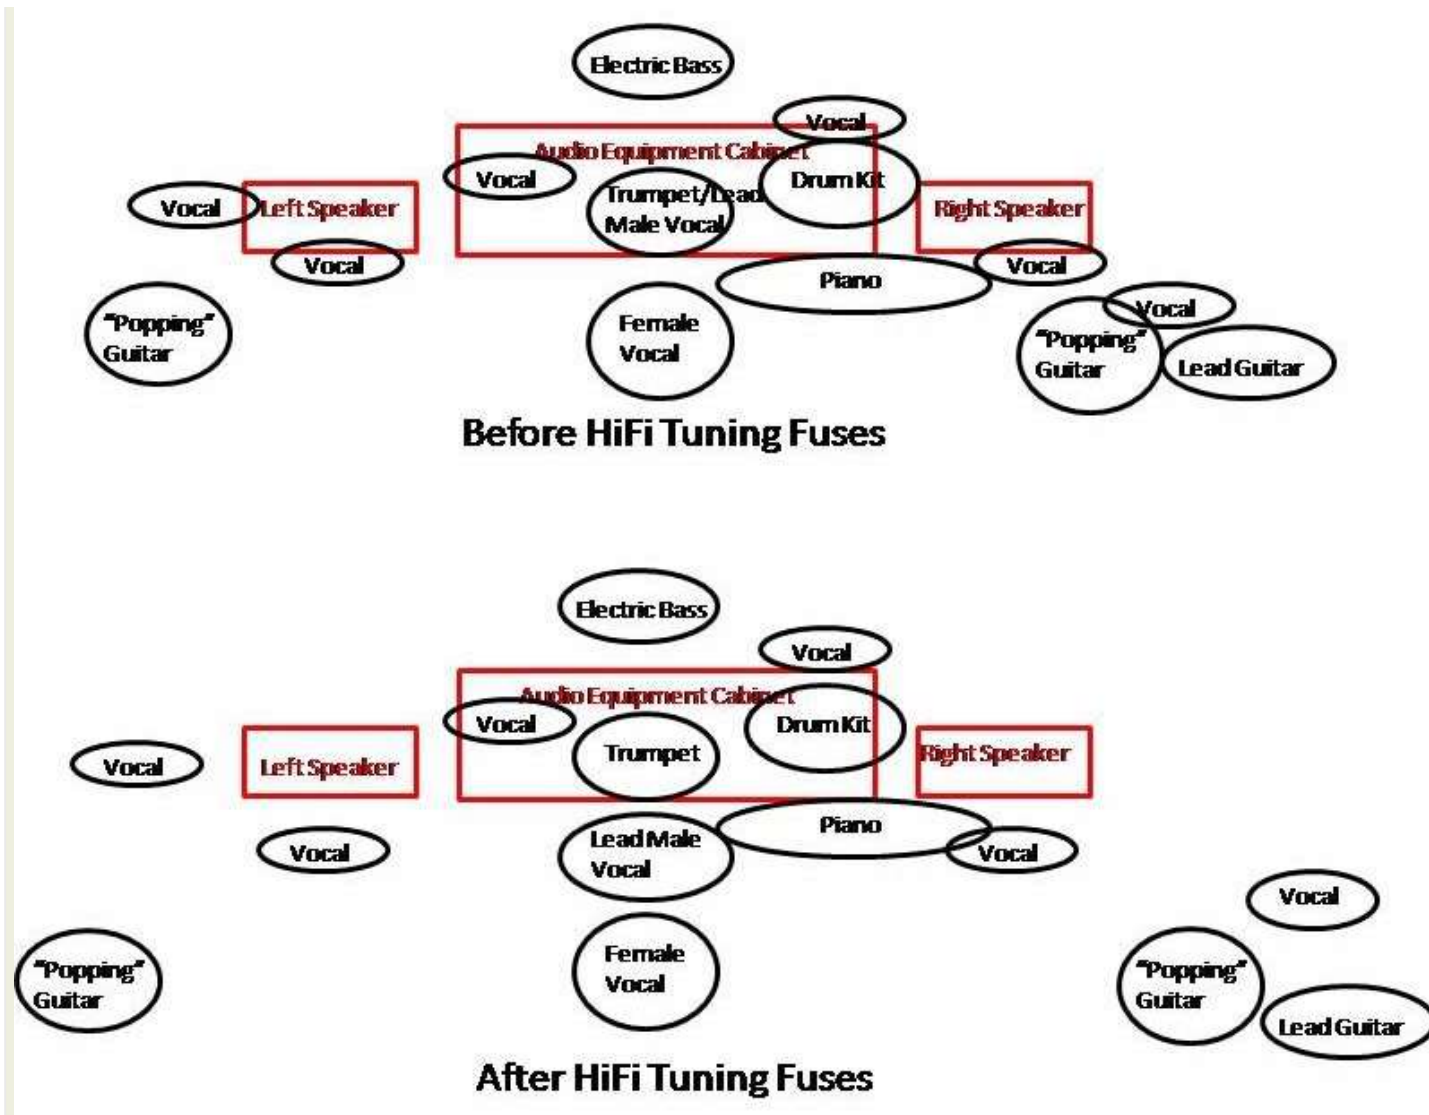

Figure 1. Sound stage dimension changes after preamp fuse upgrade.
Replacing the stock 1A wire wound fuse in my Pass Labs X0.2 preamp with a HiFi Tuning fuse resulted in a dramatic improvement in sound stage dimensions and quality as shown in figure 1.
Figure 1 shows the changes in instrument and vocal locations before and after the HiFi Tuning fuse installation for the CD version of the song "Funkin' For Jamaica (NY)" by trumpeter Tom Browne (released in 1980).